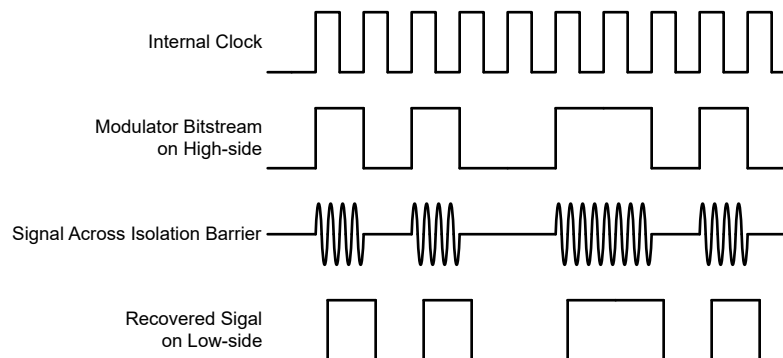

Figure 7-1. OOK-Based Modulation Scheme
As shown in Figure 7-1, the AMC0x11S-Q1 uses an on-off keying (OOK) modulation scheme to transmit the modulator output bitstream across the SiO₂-based isolation barrier. The transmit driver (TX) is illustrated in the Functional Block Diagram. TX transmits an internally generated, high-frequency carrier across the isolation barrier to represent a digital *one*. However, TX does not send a signal to represent a digital *zero*. The nominal frequency of the carrier used inside the AMC0x11S-Q1 is 480MHz.